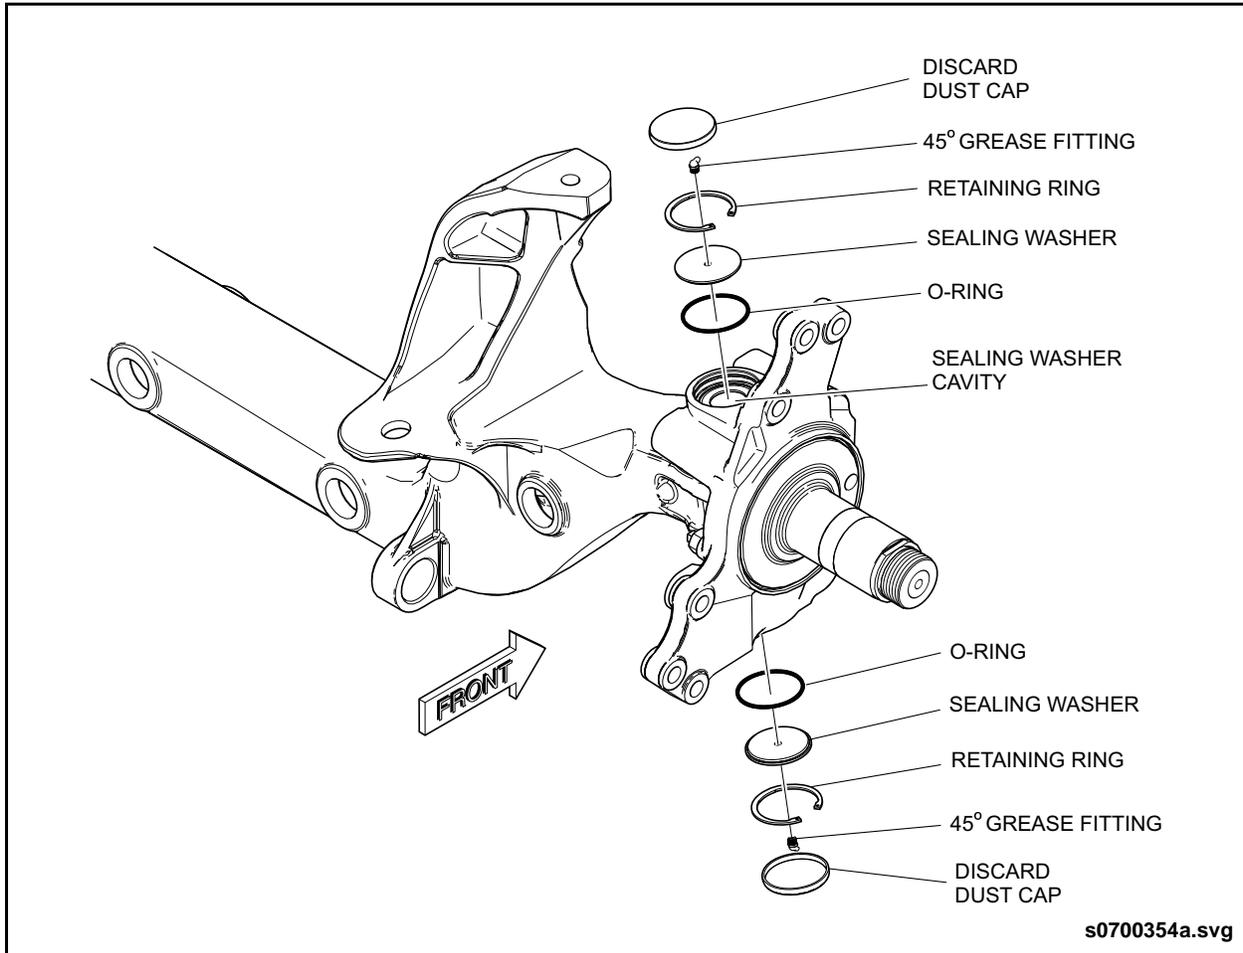

Fig. 1: Steering Knuckle Lubrication
1. Remove upper and lower dust caps, if installed, and discard. See "Fig. 1: Steering Knuckle Lubrication" on page 3.